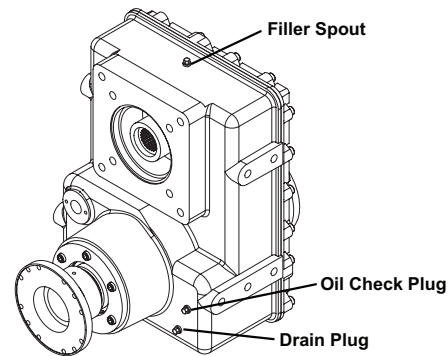

Figure 17
2. Remove the breather filter and the drain plug (Figure 17), and drain the old fluid into a drain pan.